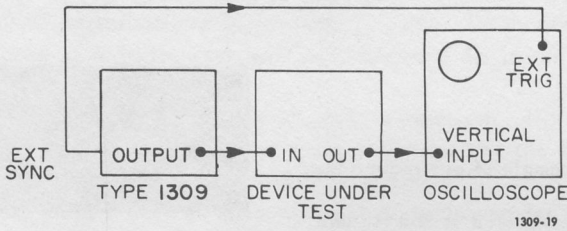

Figure 4-9. EXT SYNC signal used to trigger an oscilloscope.
4.7.1 OSCILLOSCOPE TRIGGER (Figure 4-9).